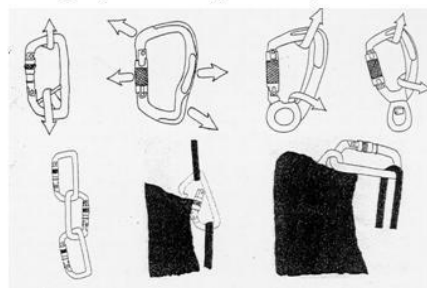

**Fig. 5**
- When descending, descent must be controlled with one hand on the free end of the rope and the other hand on the body controlling the handle of the descender (see Fig.5). Failure to do so could result in serious injury or death.